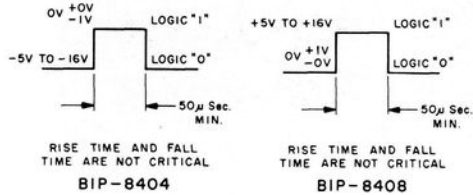

Figure 2a. BCD INFORMATION INPUT PULSE (See Note 1)
Logic Levels (Figure 2a, Note 1, Table 2)
1. BIP-8404 and BIP-8408 are positive logic modules (logic "1" is more positive than logic "0"). However, if negative logic is used (logic "1" is more negative than logic "0"), the inputs must be reversed; i.e., reverse inputs to 1 and 1, 2 and 2, etc. Also, the BIP 8404 accepts negative voltage (less than ground) while the BIP-8408 accepts positive voltage (more than ground). See Figure 2a.